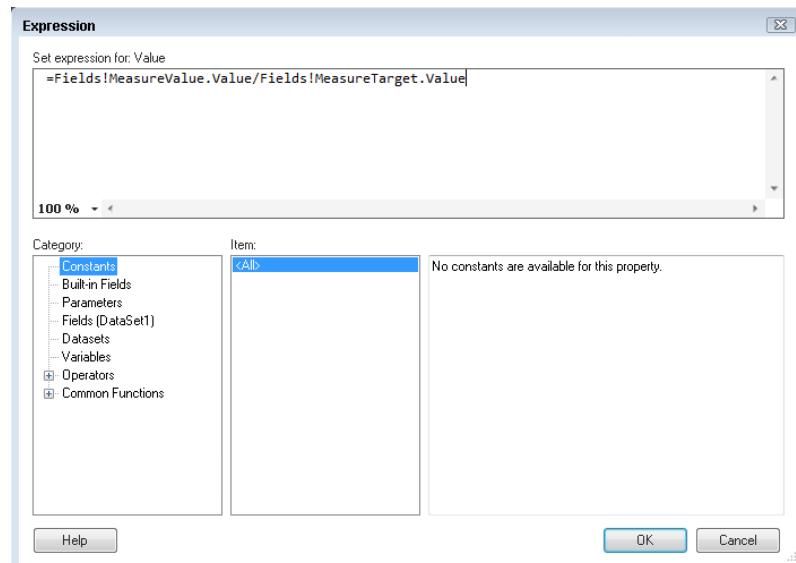

Figure 12-5
17. Use the following expression in the Expression window and then click OK, as shown in Figure 12-5: